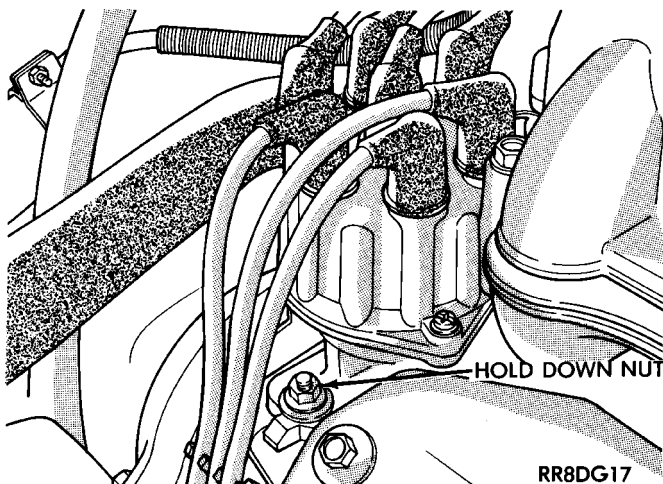

Fig. 7 Distributor Hold-Down
- (2) Loosen distributor cap retaining screws.
- (3) Lift cap off distributor.
- (4) Rotate engine crankshaft until the distributor rotor points to the intake manifold plenum. Scribe a mark on the plenum in line with the rotor. The scribe line indicates where to position the rotor when reinstalling the distributor.
- (5) Remove distributor hold down nut (Fig. 7).
- (6) Carefully lift the distributor from the engine.
- (3) Install the distributor cap. Ensure sure all high tension wires are firmly in the cap towers.
- (4) Install hold-down nut and tighten (Fig. 7).